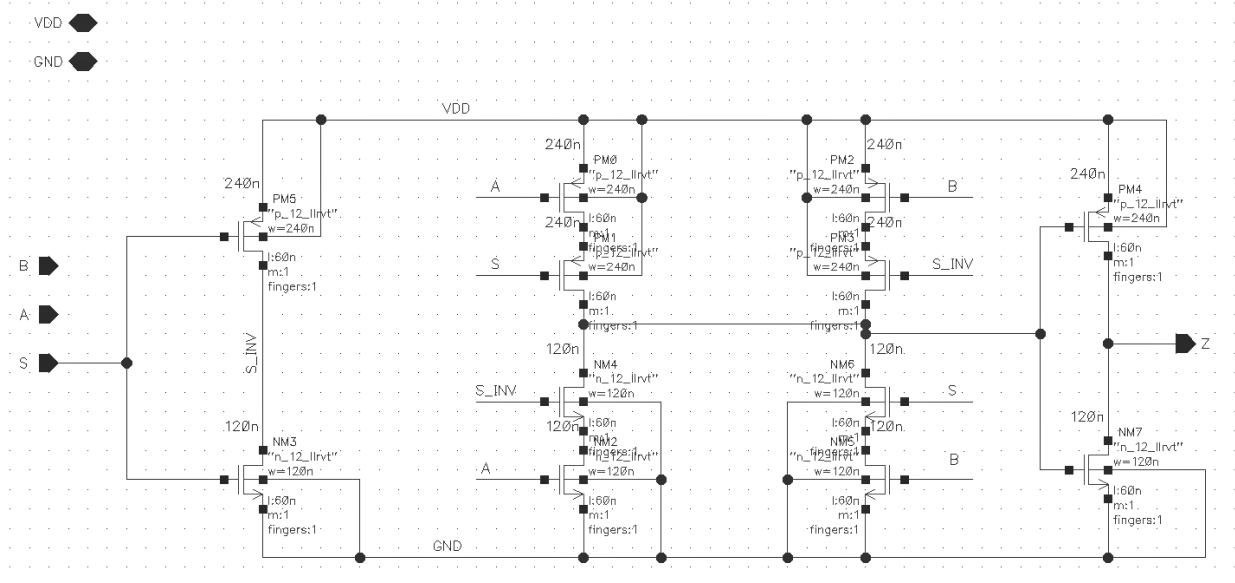

Figure 5 - The Final MUX 2-to-1 Schematic ($S=1 \Rightarrow Z=B$; $S=0 \Rightarrow Z=A$)
- ✓ Return to the schematic editor window **without closing the option form** and place 6 NMOS transistors in your schematic as in the Figure 4 or Figure 5. To turn them sideways, you can use **Sideways** button on the **Add Instance** window (see the figure - right). When you are done, either press **Escape** or click **Cancel** on the option form to stop placing transistors.
- ✓ Choose **Create→Wire (narrow)** from the menu (*bindkey: w*), and add wires to your schematic to connect the different elements as shown on the Figure 5 (next page).
- ✓ Choose **Create→Wire Name** from then menu (*bindkey: l*). In the option form, type **A**, **B**, **S** and **S_INV**, and name the corresponding wires as shown in the Figure 4 (before) or in Figure 5 (next page). Finally, check if your schematic corresponds completely to the Figure 5 (be careful - check the transistor bulk connections).
QUESTION : Look at the two inverters in the figure 5 schematic. Based on your knowledge of the sizing guidelines, assuming these inverters are balanced, what can you tell about the carrier mobility ?